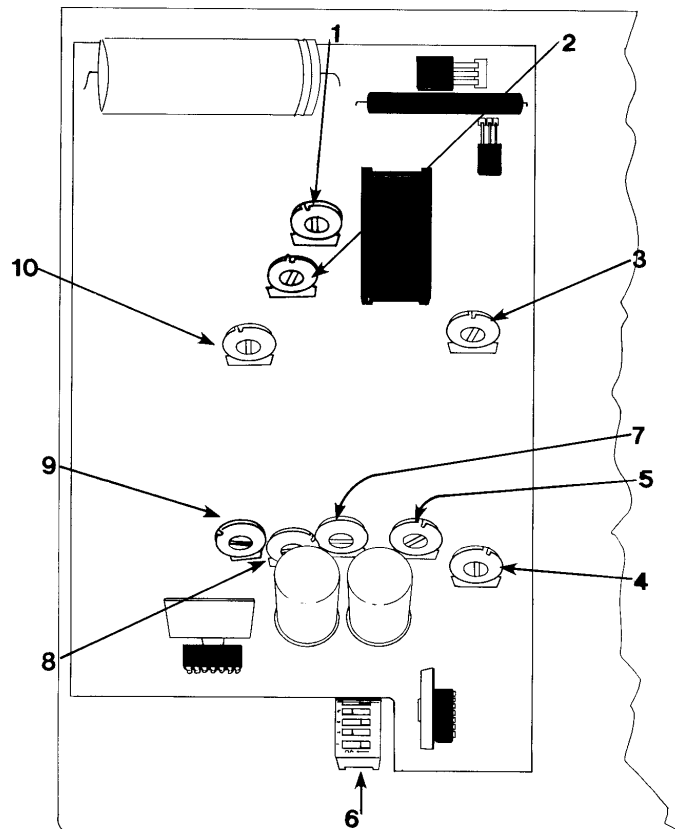

Figure 2: Audio Board Adjustments
CRASH has three switch selectable options. These are controlled by a seven segment DIP switch located on the main logic board at position 14A (see Figure 2, item 6). This switch is accessible from the front of the game through the coin door.
IV. AUDIO ADJUSTMENTS (Figure 2)